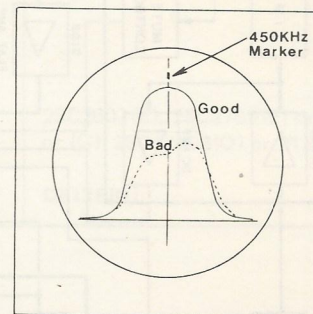

Fig. 2
- (c) When the waveform of the oscilloscope (Fig. 2) was confirmed, heighten the input sensitivity of oscilloscope as possible, and lower the output of sweep generator. (At this moment, if the waveform seems to be under the influence of external radio wave, change the receiving frequency of the receiver until the influence is minimized. And then perform IF adjustment.